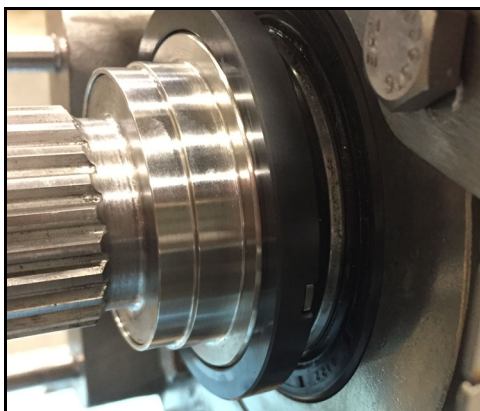

Figure 109 - Rotary seal installed
29. Figure 109 shows the seal installed.